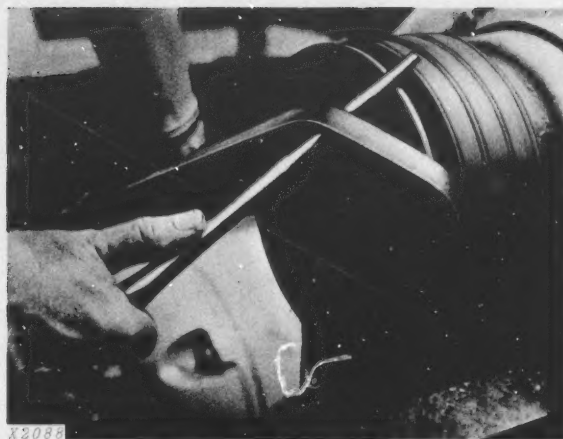

Fig. 7—Never Force A Belt Onto A Pulley
3. Never force a belt onto a pulley (Fig. 7). Forcing will result in injured cords and premature belt failure.